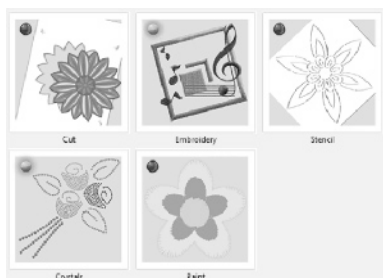

Fig. 10
2. In the *Techniques* dialog, select the Embroidery and Cut options. Remove the bullets from all other techniques. (See Fig. 10) Click <Next>.